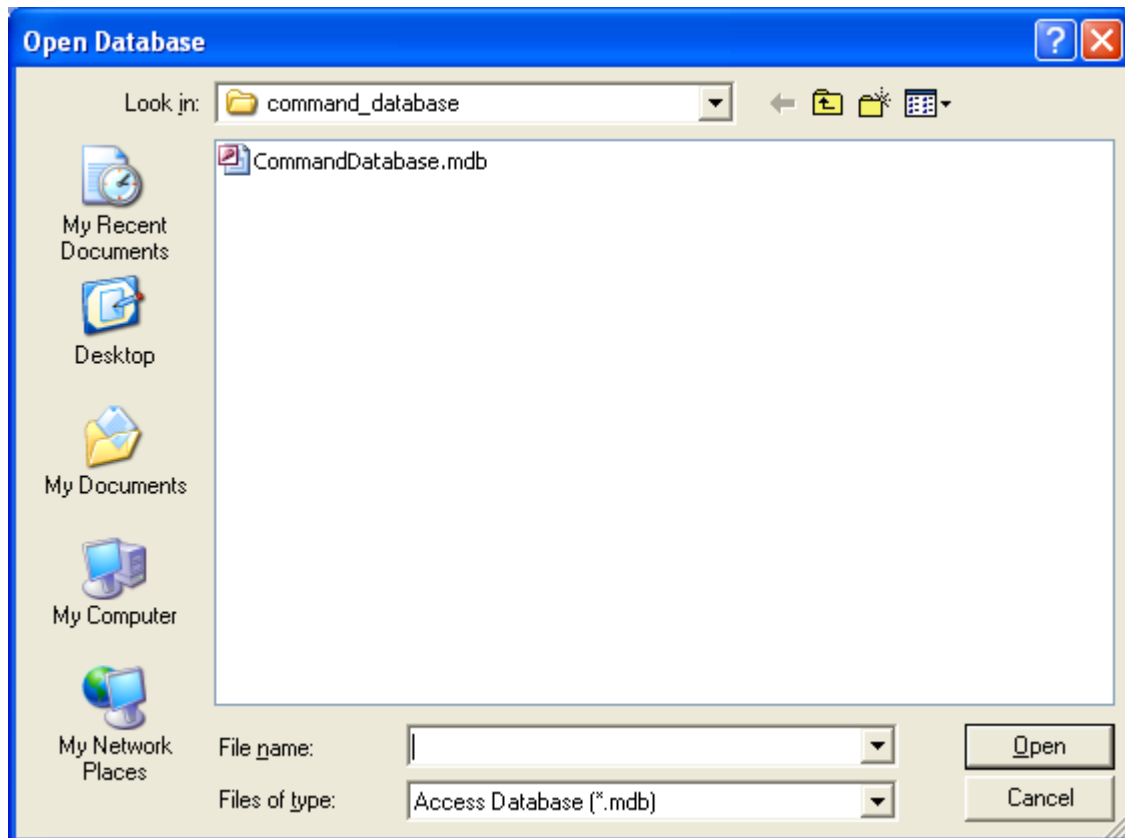

Figure 34 Open Database Dialog
1. Go to the **File** menu in the Command Database application and choose **Open Database**. Use the "Open Database" dialog shown in Figure 34 to browse for the CommandDatabase.mdb database file. This dialog will default to the TReK directory that contains the TReK command database files (so you really shouldn't have to browse for the database file).